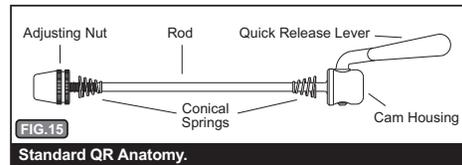

FIG. 15
**6. YAK & IBEX WHEEL INSTALLATION USING QR (FIG. 15):** *NOTE: Follow all instructions exactly. If you are unsure how to operate the quick release, please consult your bicycle dealer or contact BOB.* Fig. 15 shows the anatomy of the quick release.